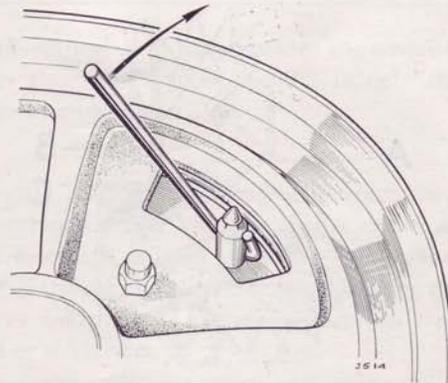

Fig. 30 (upper) Fig. 31 (lower)
3. Using the special lever provided in the tool kit, lever off the wheel trim as shown in Fig. 30 and slightly loosen the wheel nuts, Fig. 31.